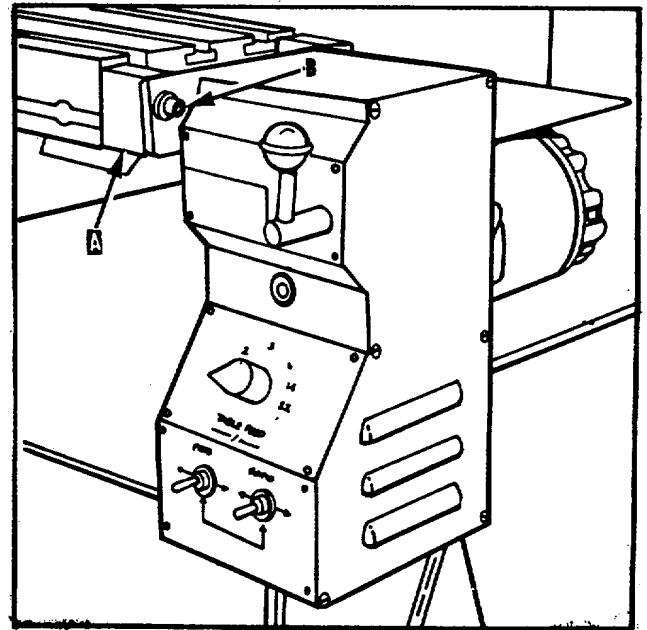

Fig. 4.
5. Assemble the power feed unit to the adapter bracket (A) Fig. 4, using the two screws supplied. One of the screws can be seen at (B) Fig. 4.